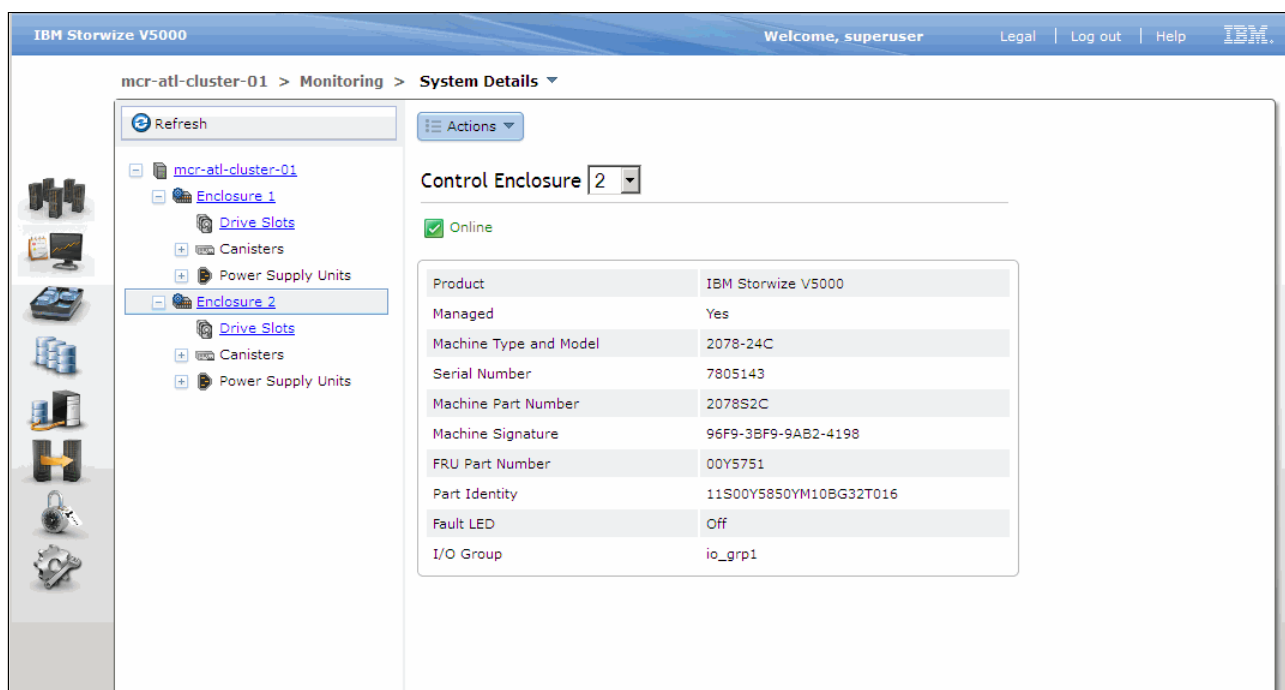

Figure 2-41 New enclosure that is shown as part of existing cluster
7. The new enclosure is now be part of the cluster, as shown in Figure 2-41.